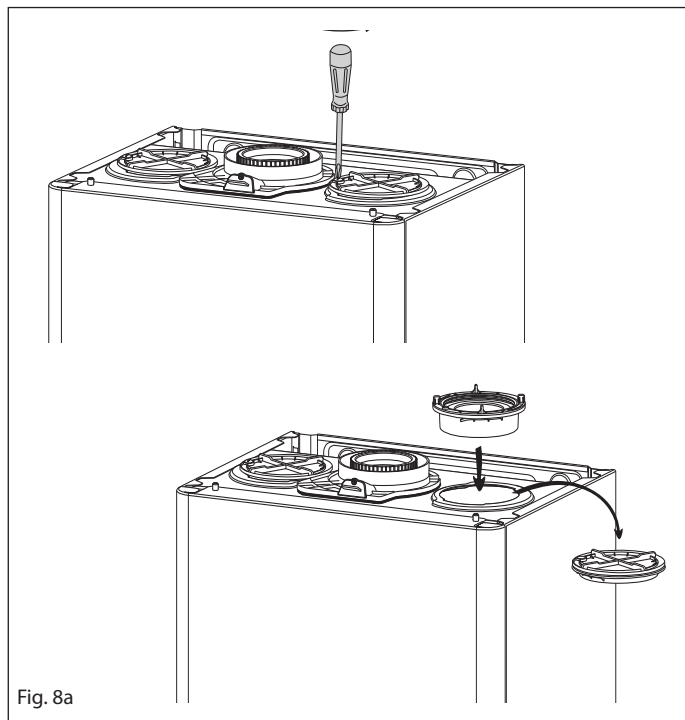

Fig. 8a
- 2) Assemble the air inlet adaptor - see fig. 8a